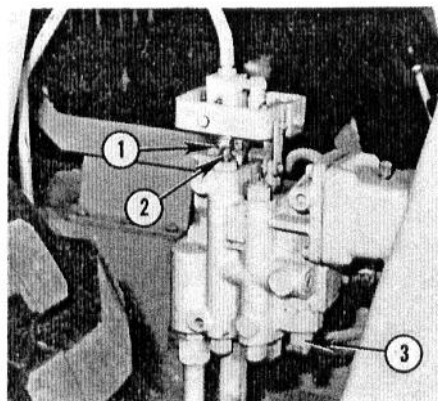

Fig. 19 — Fittings Connected to Control Valve Test Port
1. Connect a suitable gauge to control valve test port using fittings as shown in Figs. 19 and 20.